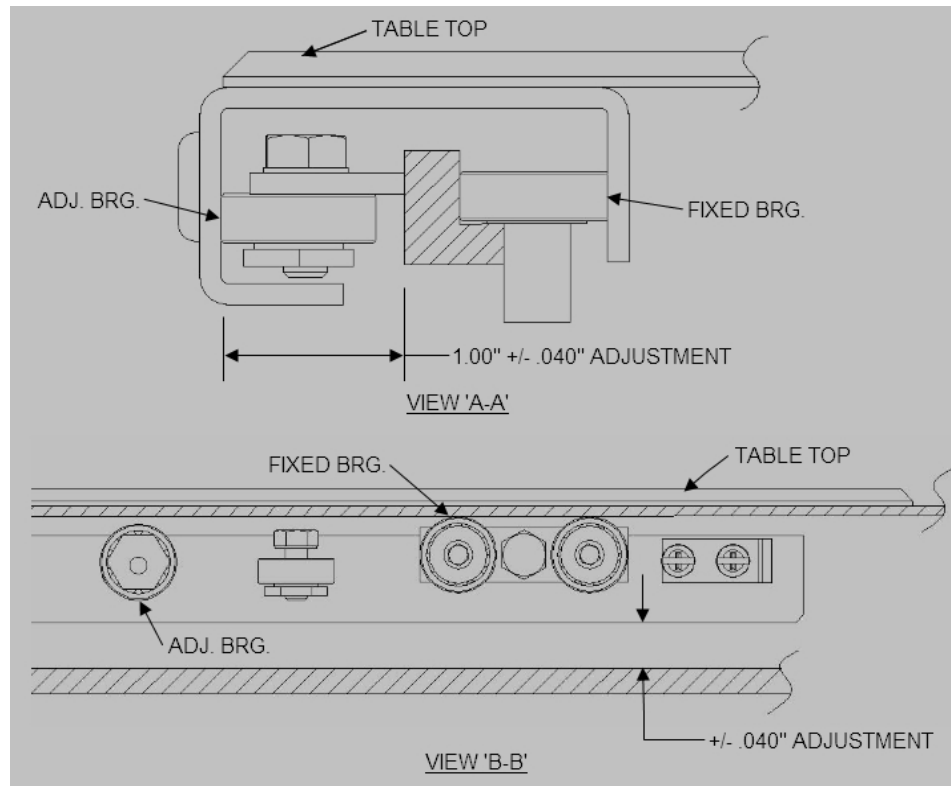

Figure 1: Tabletop bearing adjustment
6. If an excess of vertical or transverse motion occurs adjust the appropriate bearings (see Figure 1).